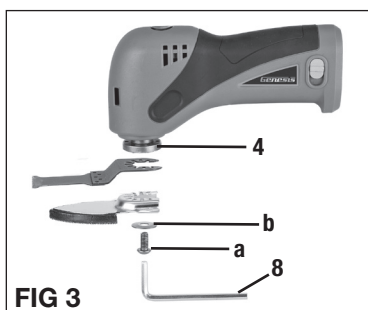

FIG 3
INSTALLING AND REMOVING ACCESSORIES (FIG 3)
- Loosen and remove the cap screw (a) and the washer (b) from the shaft flange (4) using Allen wrench (8) provided.
- Put the cap screw and the washer back on. Make sure the concave side of the washer is facing the accessory. Tighten the cap screw securely using Allen wrench. See FIG 3.